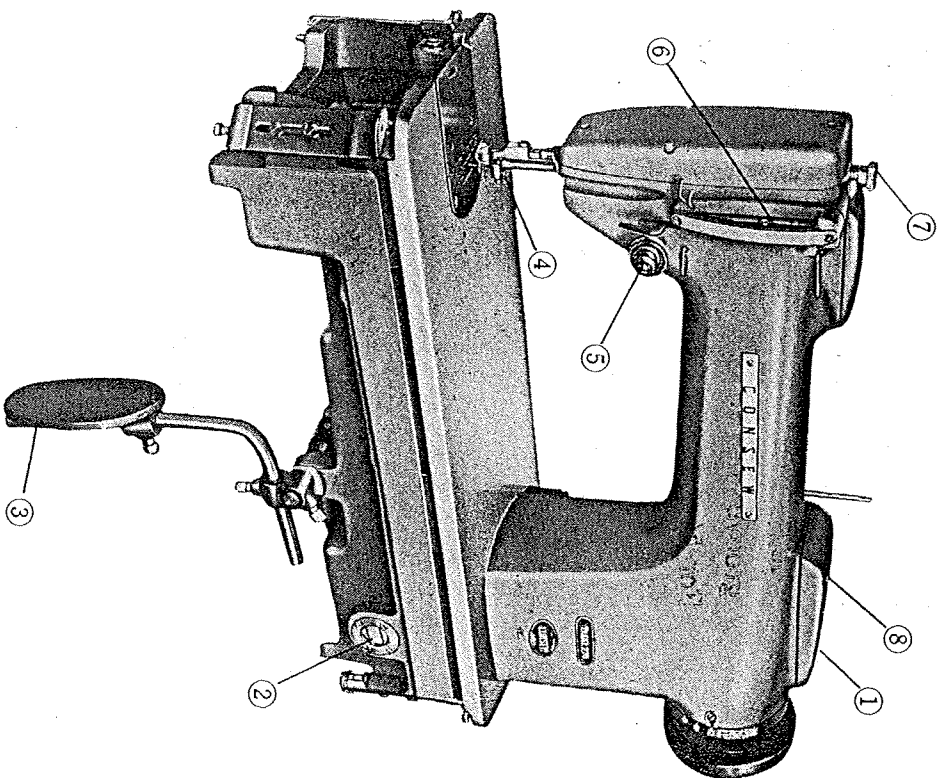

Fig. 1
Oiling of the operating parts of Model 220 machine is entirely automatic. Oil is contained in the oil pan at the bottom of the machine head and is circulated from there to all parts which require lubrication and cooling. The oil pan should be filled with good quality sewing machine oil, either ordinary or stainless type, of a grade similar to SAE10 to the level indicated by the word "High" inside the pan. The upper red line of the oil level indicator (2), (Fig. 1) shows the corresponding oil level. Check oil level daily and never allow it to fall below the lower red line of the oil level indicator or below the "low" mark inside the oil pan. Oil is filled directly into the oil pan when the head is tilted back. Total oil capacity is approximately $1\frac{1}{2}$ pints (24 fl. ounces.)